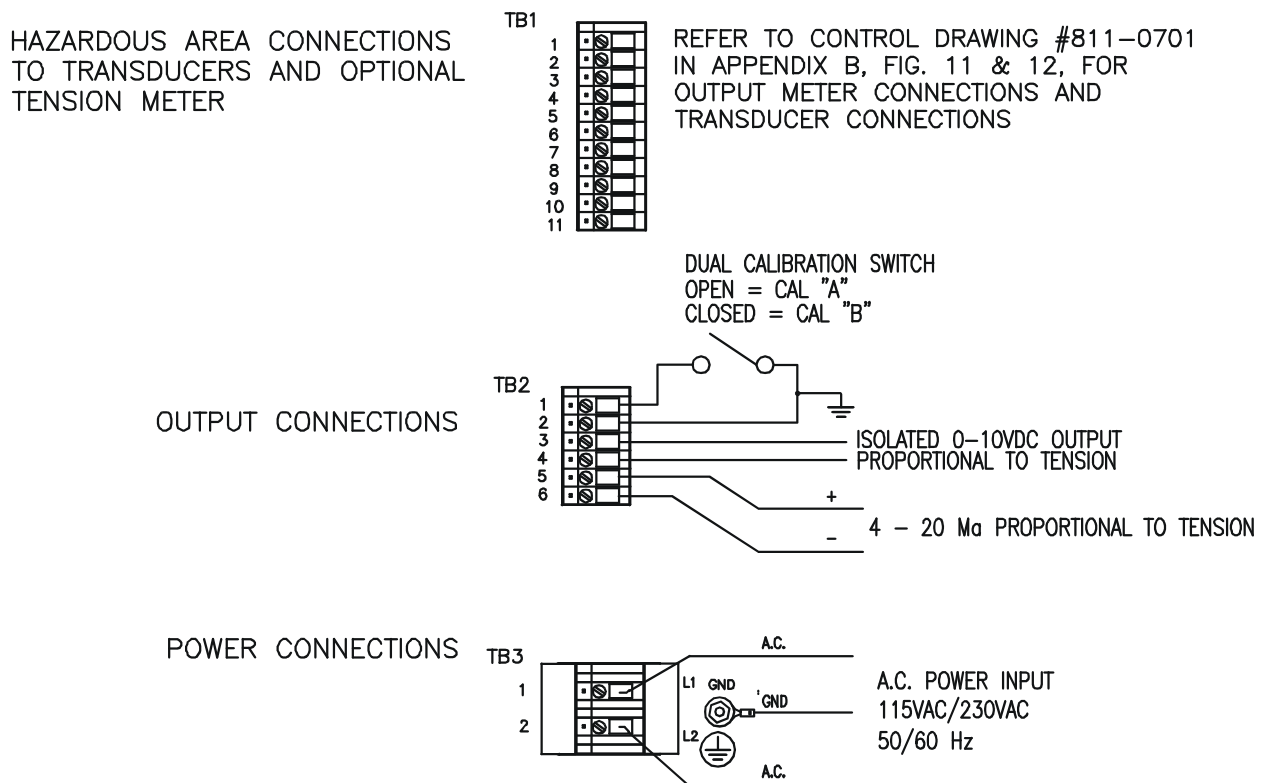

Figure 5 - ELECTRICAL CONNECTIONS FOR HAZARDOUS & SAFE AREAS
2.5 ELECTRICAL CONNECTIONS OF STANDARD FEATURES (Reference Fig. 5)
2. Make your connections between the indicator and your other tension control equipment, variable speed drive systems, computers, or other devices located in "safe" areas in accordance with Fig. 5.
3. If you intend to use the Dual Calibration feature, make your connections between the CAL A/CAL B selection switch and the indicator in accordance with Fig. 5